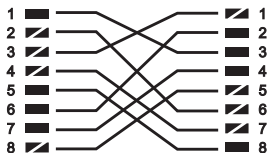

Fig. 27
- (A) Connect MIPRO-DV to the ACT-BUS socket.
- (B) Start the optional managing software from the PC, power off the charger carry case, hold the SYNC button and then restart the power, the internet IP manual set-up will show up in the PC screen accordingly.
- (A) Connect one end of an Ethernet cable to the Ethernet port on charger carry case. Connect the other end to a PC Ethernet port.
- (B) PC networking enables multi monitoring and controls.
(C) Ethernet cable wiring, Fig. 27: